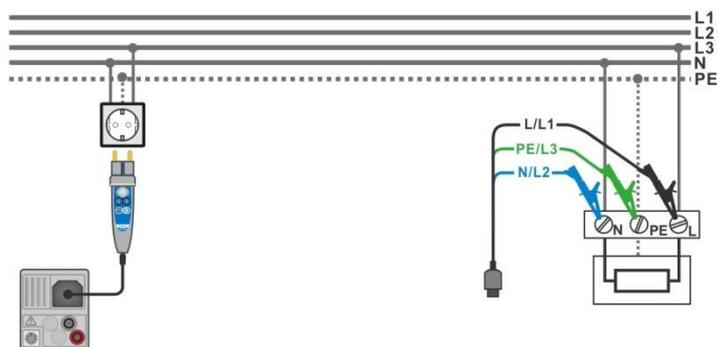

Figure 7.101: AUTO TN measurement
- ▶ Connect test leads or Plug commander to the object under test, see Figure 7.101.